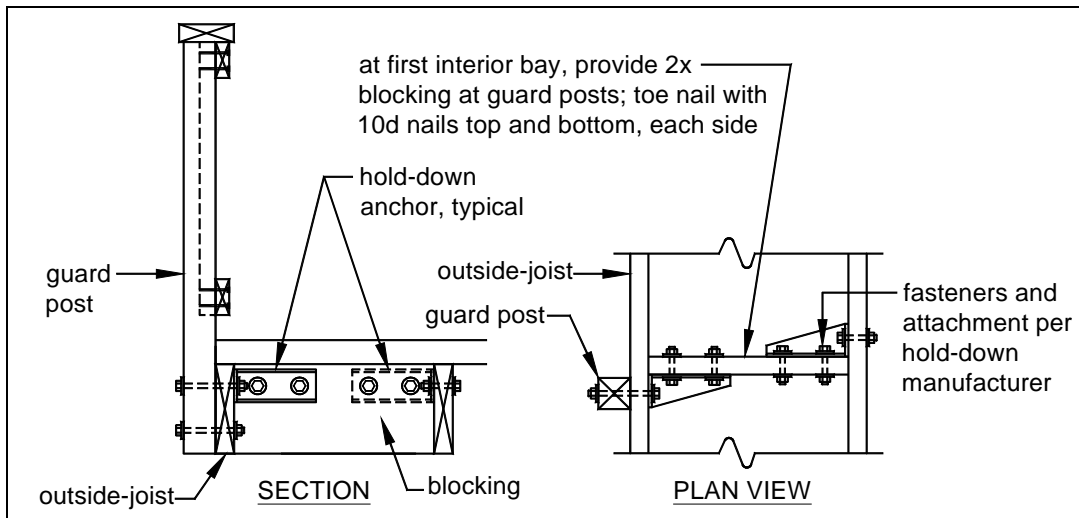
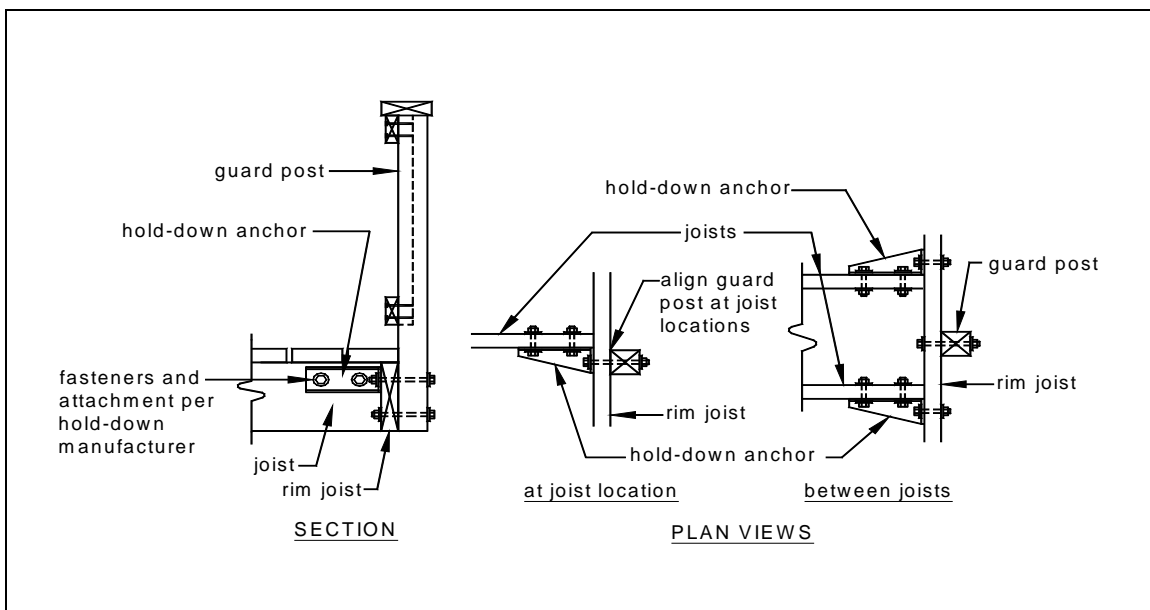

FIGURE 31: GUARD POST-TO-OUTSIDE JOIST DETAIL
FIGURE 32: GUARD POST-TO-RIM JOIST DETAIL
- Hold-down anchors, as shown in FIGURE 31 and FIGURE 32, shall be used to attach the guard post to the outside joist and rim joist, respectively.